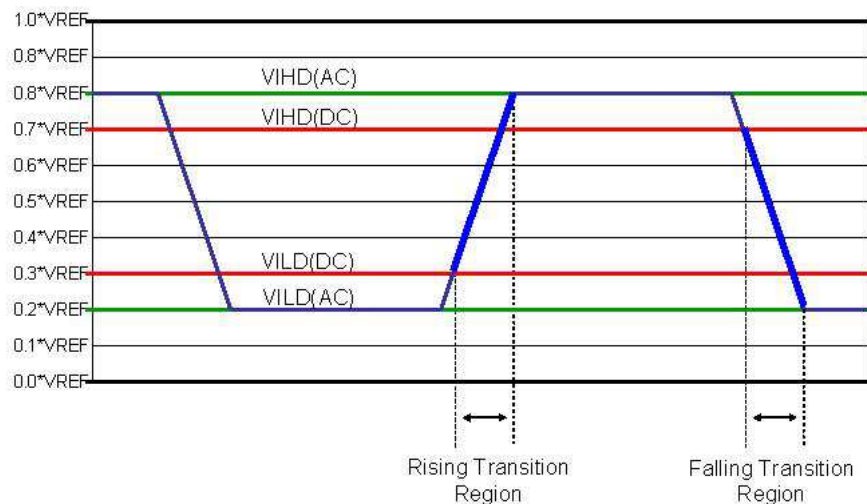

Figure 1. Low Speed (LS) I/O Input Thresholds
- (1) V_{ILD(AC)} minimum applies to undershoot.
- (2) V_{IHD(AC)} maximum applies to overshoot.
- (3) Signal group 1 output slew rate for rising edge is measured between V_{ILD(DC)} to V_{IHD(AC)}.
- (4) Signal group 1 output slew rate for falling edge is measured between V_{IHD(DC)} to V_{ILD(AC)}.
- (5) Signal group 1: See Figure 1.
- (6) Signal groups 2 and 3 output slew rate for rising edge is measured between V_{ILD(AC)} to V_{IHD(AC)}.